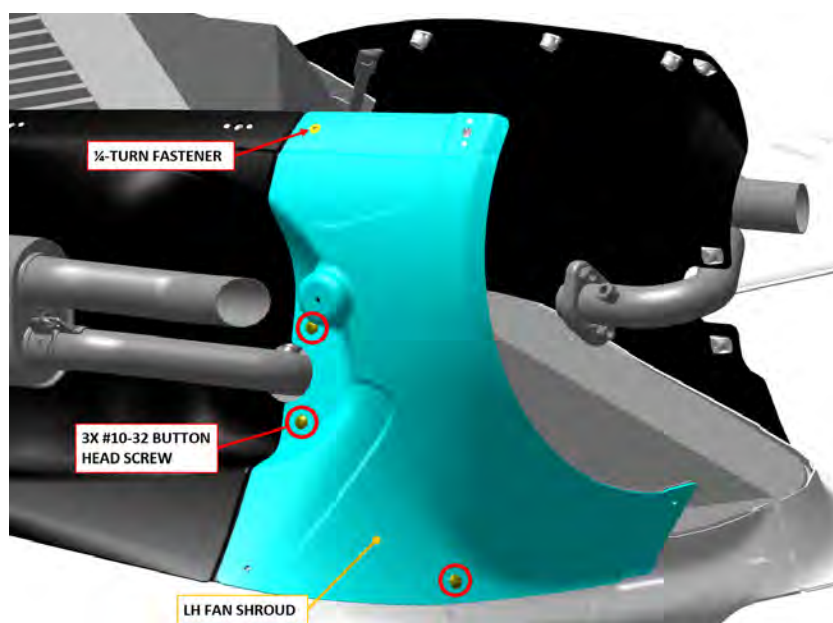

FIGURE 16-7
1. Install LH fan shroud. (See Figure 16-7.)